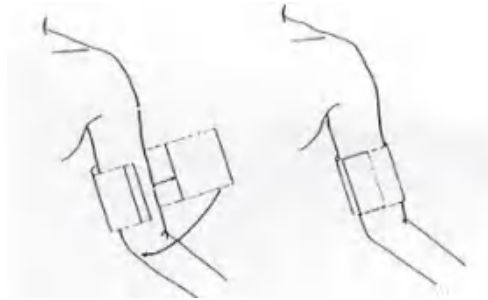

Figure 10-2-1 Use of cuff
- (1) Insert the inflation tube into the blood pressure cuff interface of the monitor and turn on the product power.
(2) Follow the method below to tie a blood pressure cuff on the patient’s upper arm or thigh, as shown in Figure 10-2-1.